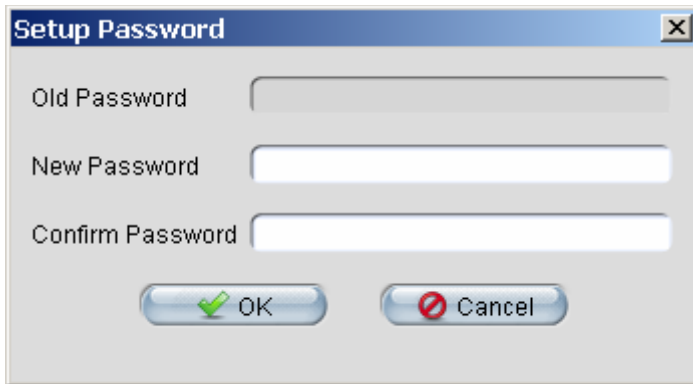

Figure1-9.
8. After setting the RIP and device parameters, you may optionally set a password for the template. Click the **Password** button in **Edit** dialog box to open the **Setup Password** dialog box as shown in *Figure1-9*. Input the new and confirm passwords and click **OK**. The template will be password-protected.